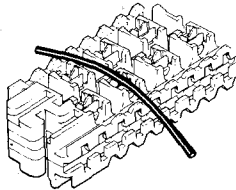

Fig. 38—Place wire.
- a. Pull wire across top of U-contact. See Figure 38.